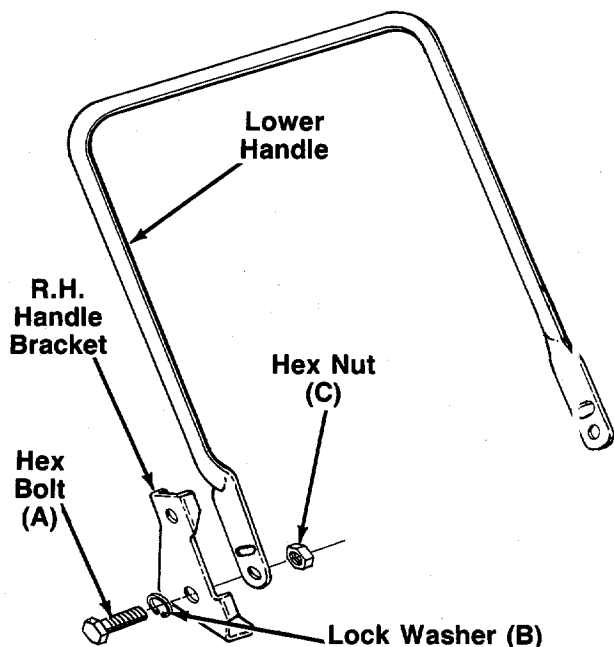

FIGURE 2.
3. Place one lock washer (B) onto hex bolt (A). Attach the right handle mounting bracket (N) to one side of the lower handle with the hex bolt (and lock washer) and hex nut (C) as shown in figure 2. Head of the hex bolt is on the outside of the handle. Do not tighten at this time.